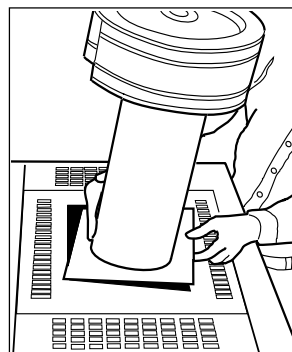
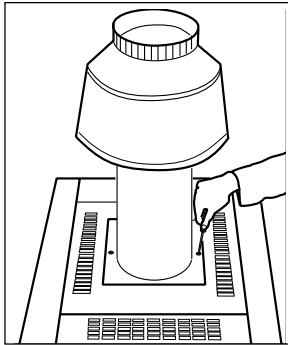

Figure 5. Vent Cap with Adapter Plate
Figure 6. Drafhhood with Adapter Plate.
- e. Slide the adapter plate over the bottom of the stack extension as shown in Figure 5. Fit the stack extension down over the flue transition ring. Seat the adapter plate on the top assembly and secure it with two screws (see Figure 6).